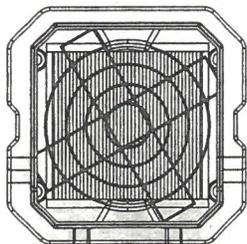

Figure 4.
- b. To remove, first rotate the pre-filter holder counter-clockwise to release the compression fit (Fig. 4).